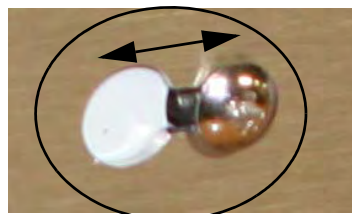

Figure 2-18. Attach Bracket Assembly to DIGI S-YC Scale Base
2. Ensure that the cable underneath the scale base is threaded through the opening between the scale and the bracket, otherwise it will not fit.(shown in Figures 2-18 and 2-19).